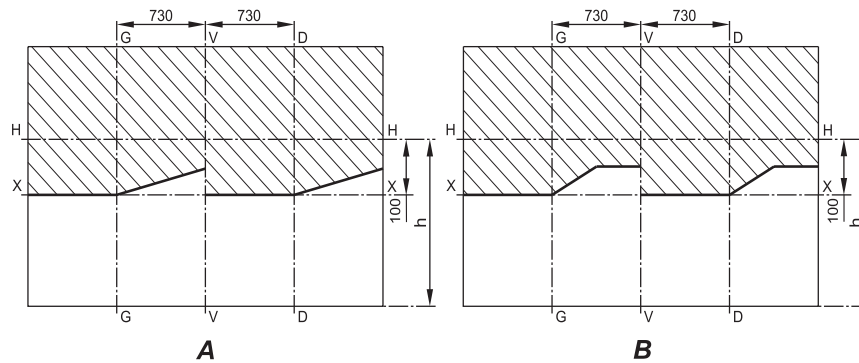

Fig. 8.5. Screen Layout for Headlamps Adjustment:
- place the unladen vehicle on a level ground at 5 m distance from the screen (Fig.8.5);